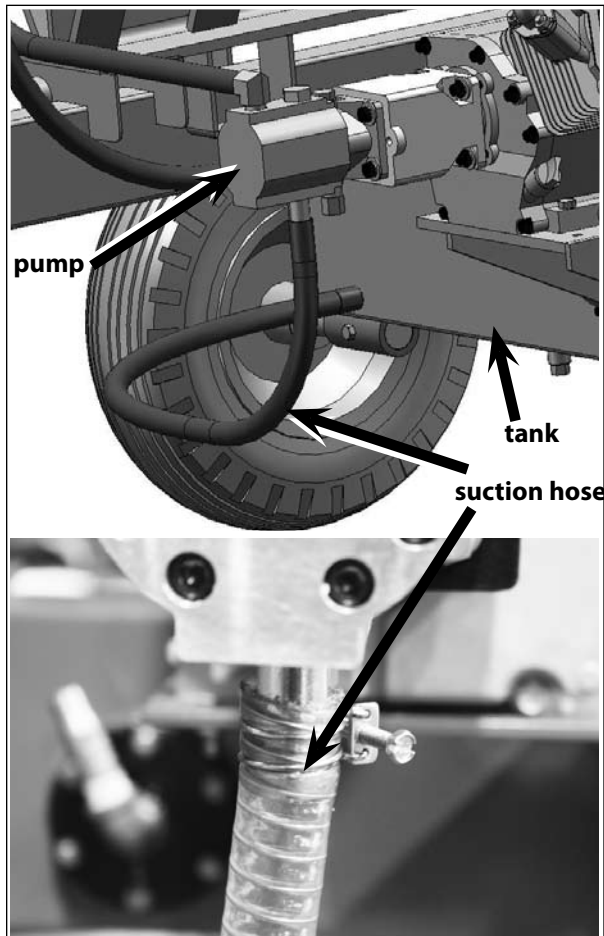

Figure 13
**SEE FIGURE 13.**
19. Attach the high pressure hose to the high pressure port on the valve and to the outlet port on the pump. **SEE FIGURE 13 and 14.** *Tip: Jiggle the fitting while tightening to ensure proper seating of the fitting.*